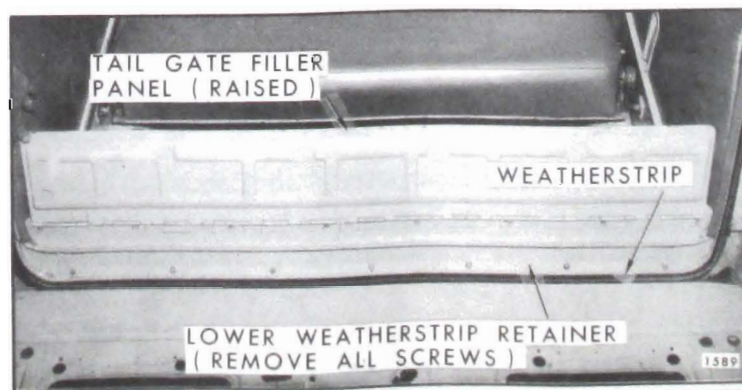

Fig. 9-49—Tail Gate Weatherstrip Retention
1. Open tail gate and remove fasteners and/or screws securing weatherstrip to right and left body pillars (at belt). On "B" Body Styles, remove screws securing lower weatherstrip retainer to rear body cross bar. (See Fig. 9-49.)